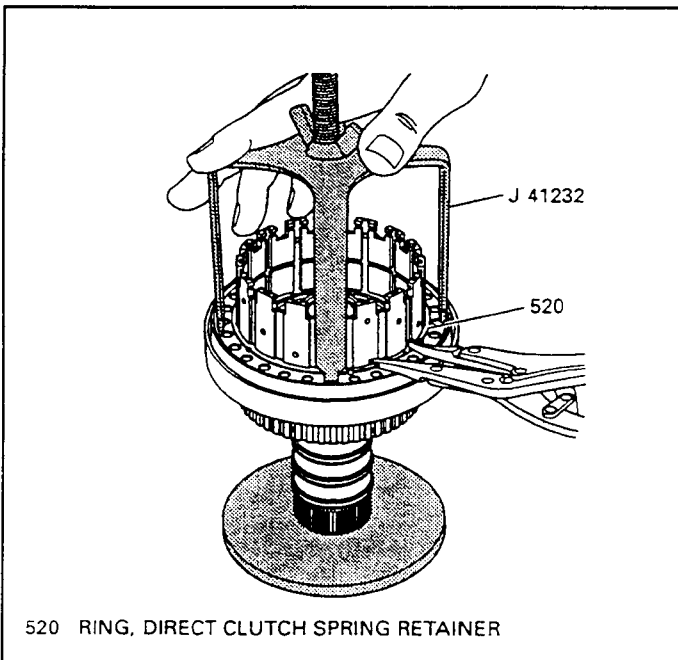

Figure 130
13. Install spring compressor tool J-41232, shown in Figure 130, and compress the direct clutch return spring assembly.
14. Install the direct clutch snap ring (520), shown in Figure 130, and remove compressor tool.